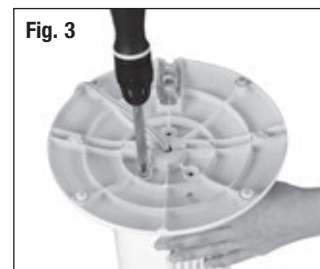

Fig. 3
- Using the 3 (M5 x 12) screws and phillips head screw driver (⌘) secure the base into the bottom portion of the fan housing by aligning the 3 screw holes on the base with the 3 screw holes on the bottom of the fan housing (Fig. 3).